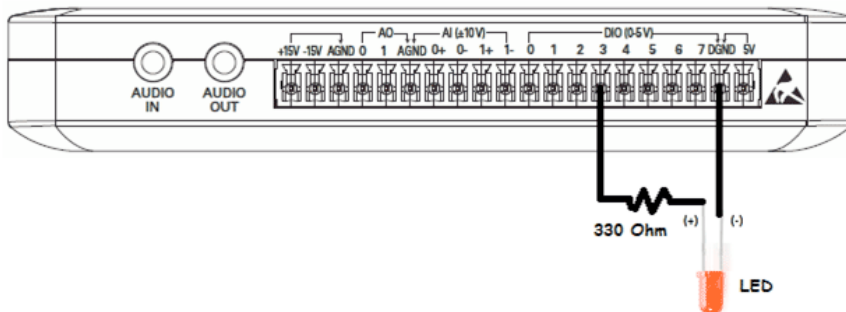

Figure 17. Counter Output Wiring
- Connect a 330 Ω resistor and an LED in series between terminal **DIO 3** and the **+5 V** terminal as seen in Figure 17.